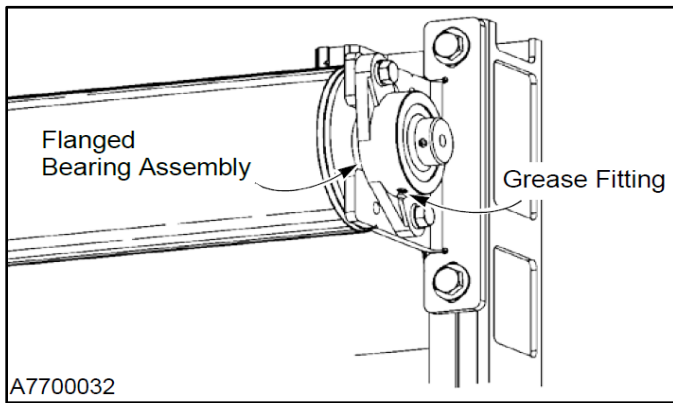

Figure 12
1. **Flanged Bearing:** The fabric roll is supported by a flanged bearing located on the roll shaft end opposite the motor/brake assembly. The flanged bearing is equipped with a grease fitting. Recommended lubrication is lithium-based grease conforming to NLGI Grade 2 standards. It should be medium viscosity, low torque, with an operating temperature range of –30°F to +200°F. (See Figure 12.)